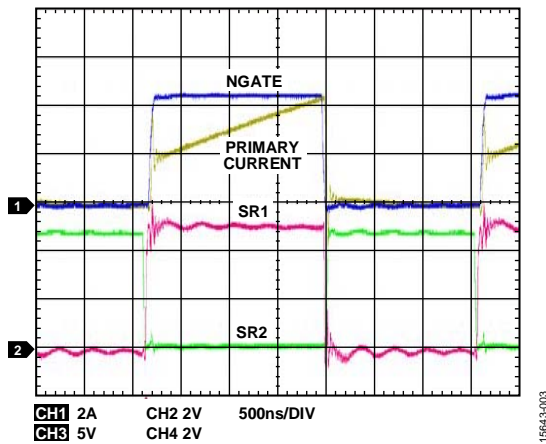

Figure 2. Pulse-Width Modulations (PWMs) at Steady State Load
The gate signals NGATE, PGATE, SR1, and SR2 are generated by isolated gate drivers within the ADP1074. The logic high level is VREG1 for NGATE and PGATE pins, and VREG2 for the SR pin, while both logic low level is 0 V. An example of GATE and SR waveforms is shown in Figure 2. All the signals shown represent the signals at the output pins of the integrated circuit (IC).